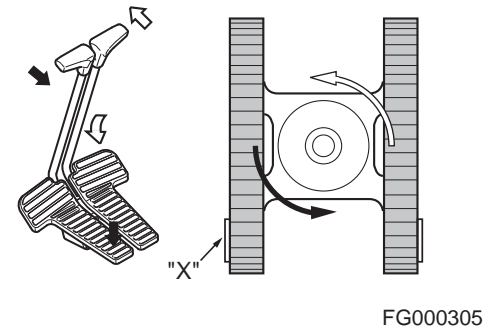

Figure 29
3. Spin turns (Figure 29) are made by rotating one track forward and one track backward. The machine will spin around its center point, thus counterrotating.